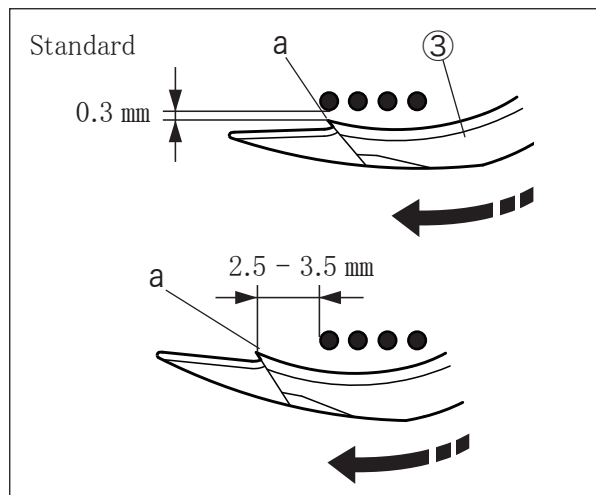

Fig. 6-30
- (3) Make the clearance between the left needle and the hook “a” of the spreader ③ to 0.3 mm , when the spreader ③ moves from right to left. Then tighten the screw ④ securely. (Fig. 6-30)
- (4) Make the distance between the left side of the left needle and the hook “a” to 2.5 - 3.5 mm when the spreader ③ is at the extreme left. Then tighten the screw ⑤ securely. (Fig. 6-30 and 6-32)